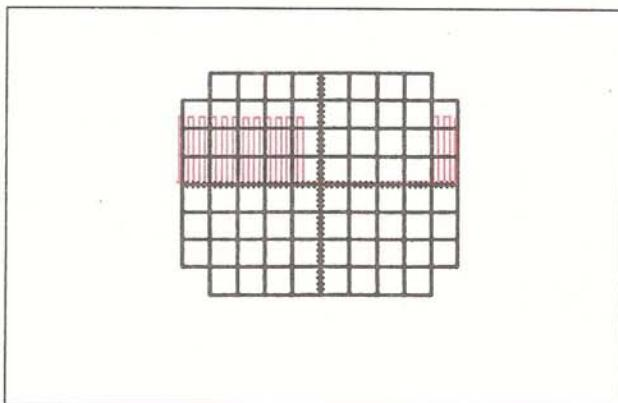

FIG. 20
- Adjust the scope's VERTICAL position control so that the beginning and end points of one complete squarewave packet are located on the horizontal center line See Fig. 20.